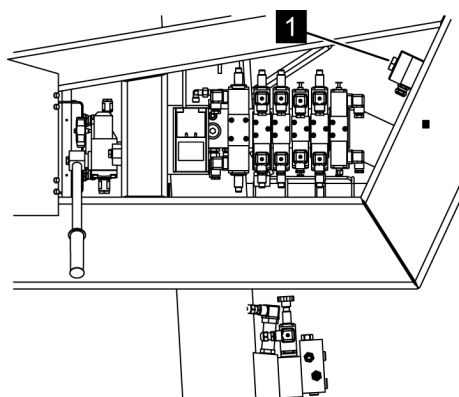

Fig. 114: Service operation button
5. → Person 1: Hold the button (Fig. 114/1) for service operation down during operation.